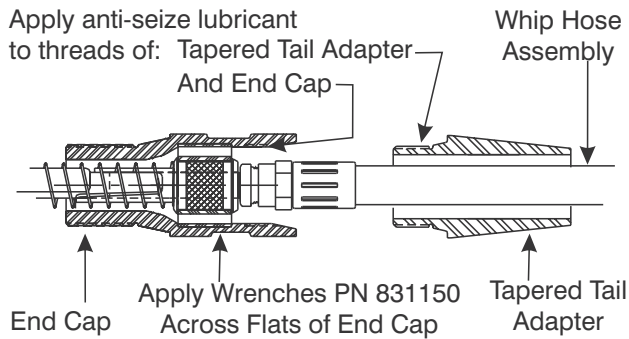

Figure 9-44. End Cap and Tail Adapter
3. Apply a light coat of Anti-Seize lubricant to the external threads of the Tapered Tail adapter (13) and the internal threads of the End Cap (8), as shown in Figure 9-44.